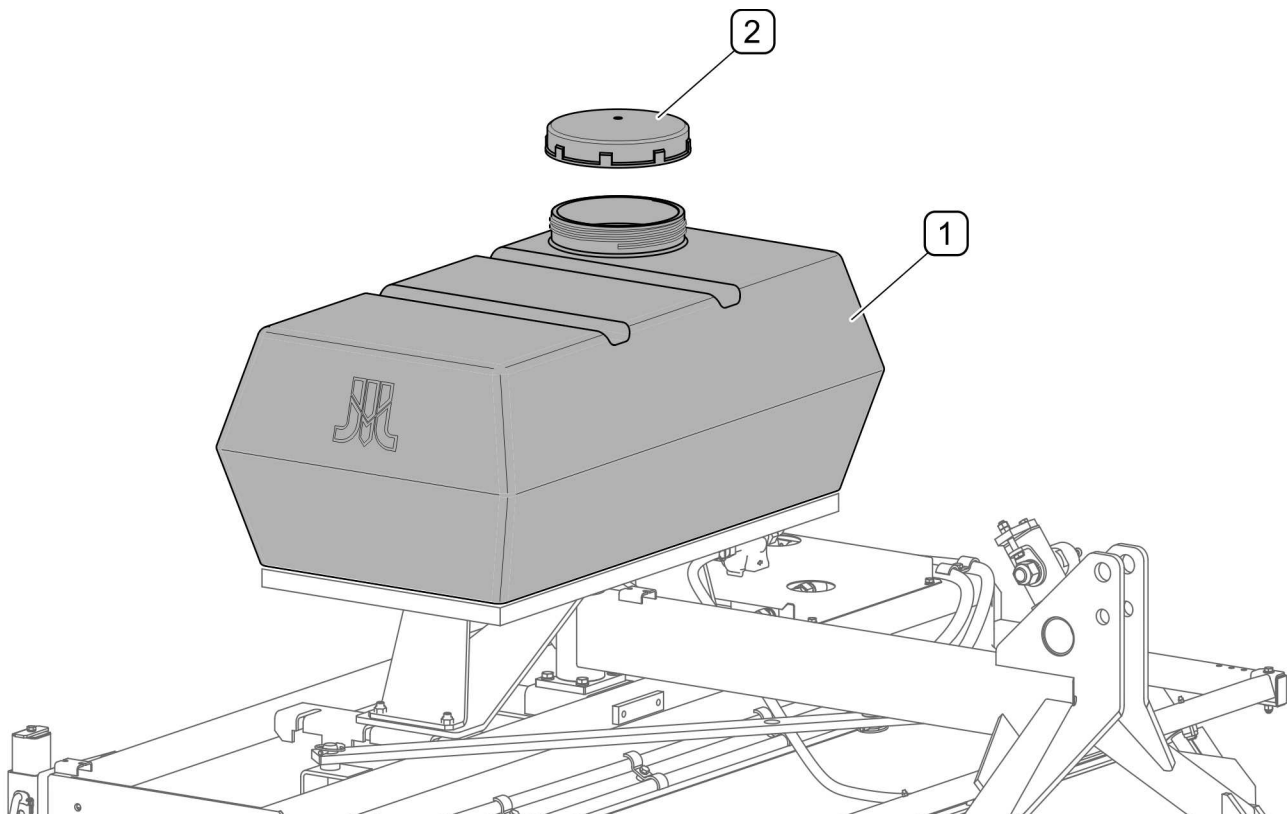

FIG. 4.3 Water tank of sprinkler system
Fill the water tank (1) through the inlet opening secured with a cap (2) equipped with a vent (FIG. 4.3). The tank capacity is 200 litres of water.